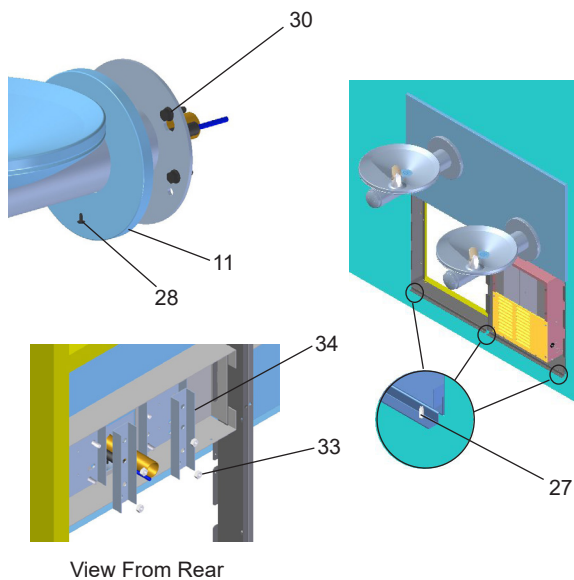
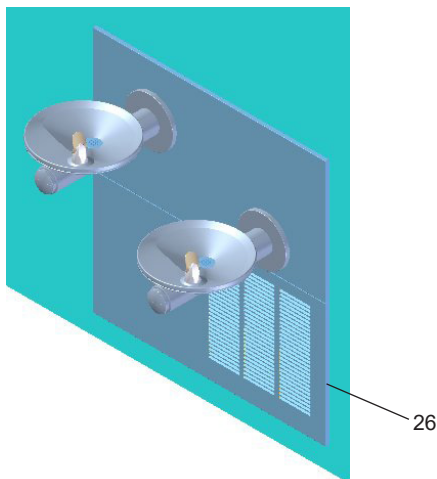

Figure 5 - Fountain Installation
Figure 6 - Lower Panel Installation
- 6. Install** the fountain. Remove the screw (Item 28) from cover plate (Item 12) and slide cover plate toward basin. Mount the fountain to the upper panel and frame with (4) 5/16" x 1" (25mm) long bolts (Item 30), bracket (Item 34) and nuts (Item 33) provided. Tighten securely. **Brackets (Item 34) must be installed as shown to properly support fountain.** (See Fig. 5)
15. **Mount lower panel.** Loosen the three (3) #10-24 x 5/8" (16mm) screws (Item 27 - Figure 5) at frame bottom lip. Slide upper tongue of lower panel (Item 26 - Figure 6) under lower edge of already installed upper panel. Tighten previously loosened screws securely. (See Figure 6)